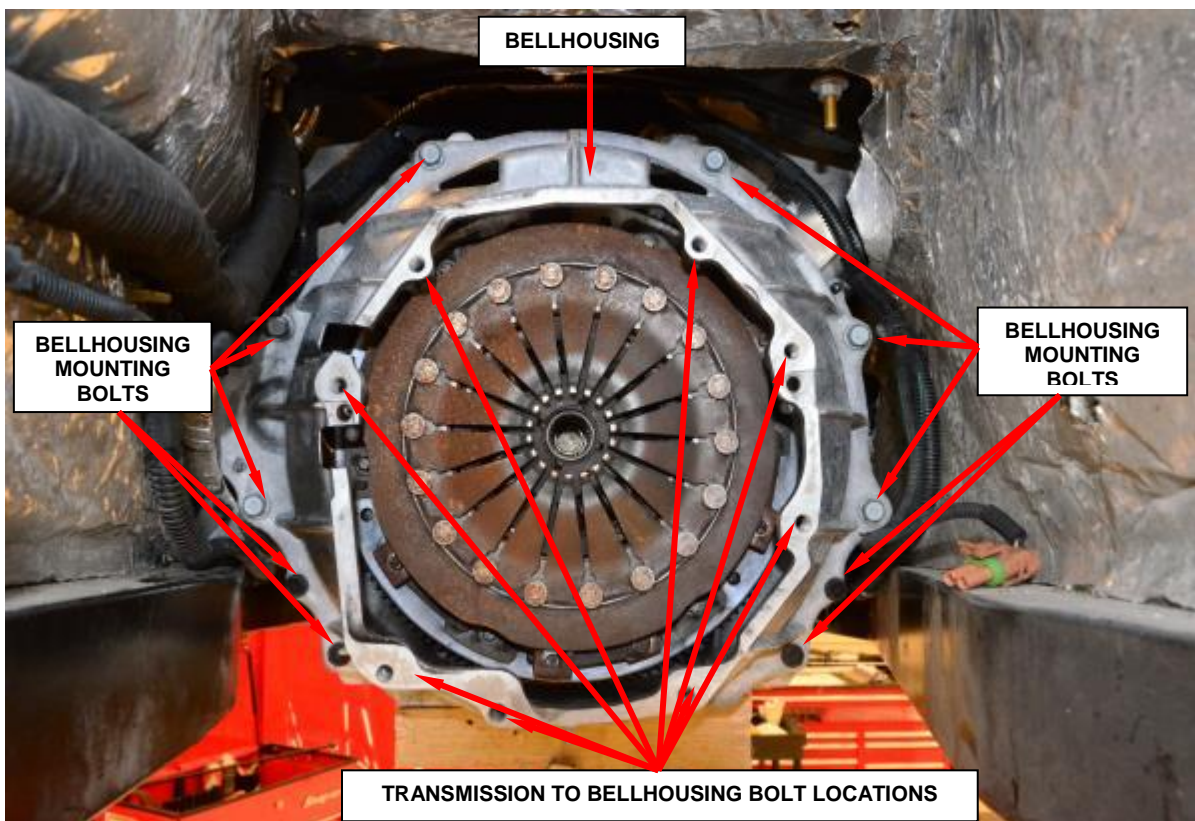

Figure 44 – Bellhousing Bolts
- j. Remove the four bolts holding the left side of the transmission to the bellhousing (Figure 44).
- k. Remove the four bolts holding the right side of the transmission to the bellhousing (Figure 44).
52. Remove and save the bellhousing mounting bolts and position the bellhousing away from the engine. The bellhousing remains in the vehicle (Figure 44).
10. Install the bellhousing to the **NEW** engine long block. Tighten the bolts to 40 ft. lbs. (54 N·m) (Figure 44).